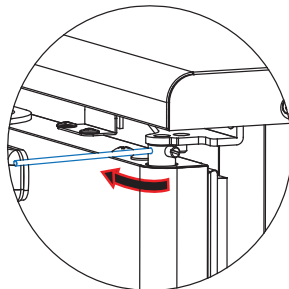

Fig 9-44
2. To remove the tension pin, slightly turn the stick along the direction of the arrow. Maintain the position of the stick by resisting the spring tension. (Fig 9-44)